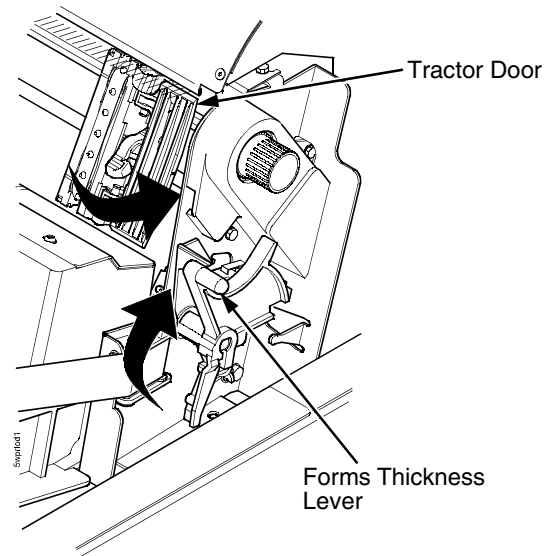

Figure 33. Forms Thickness Lever and Tractor Doors
4. Raise the forms thickness lever as far as it will go. See Figure 33.
5. Open the tractor doors. See Figure 33.